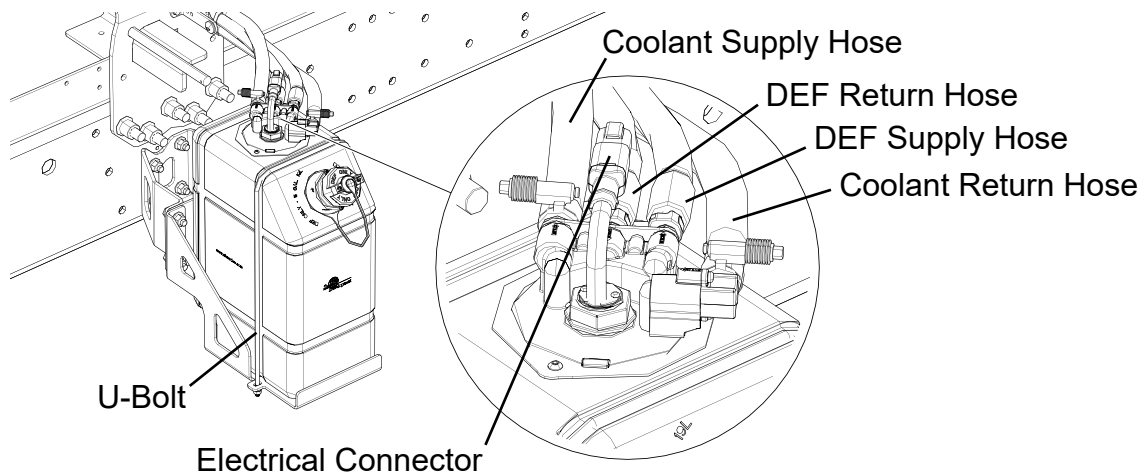

Figure 1
4. Mark DEF and coolant hoses connected to DEF tank, see Figure 1.
6. Disconnect and remove DEF and coolant hoses from DEF tank, see Figure 1.
7. Disconnect DEF tank electrical connector, see Figure 1.
8. Loosen and remove hardware securing DEF tank U-bolt to tank mount, see Figure 1. Remove U-bolt from DEF tank.